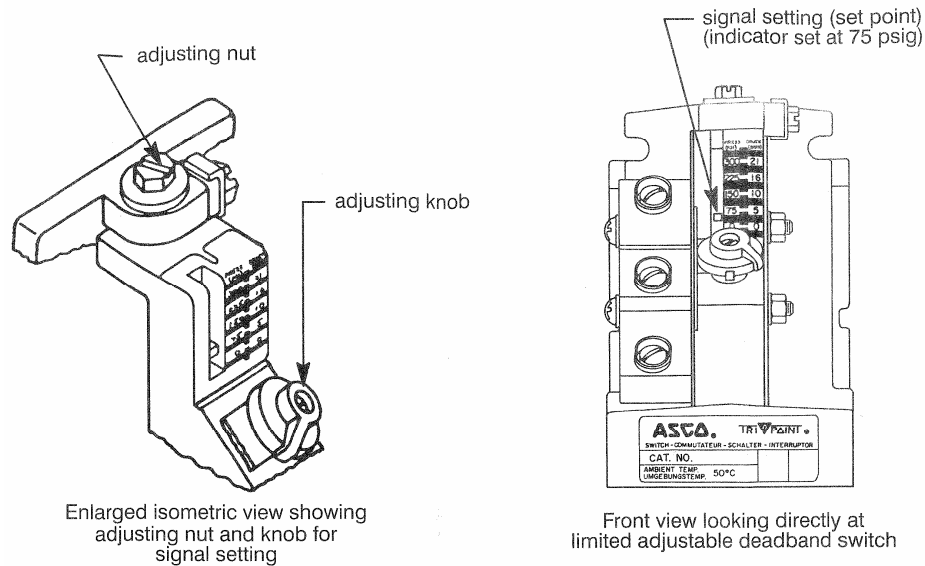

Figure 7.2: Pressure Switch for AS-A – AS-D
Typically the normally open contact of the pressure switch is used for the wiring purposes. Please refer to the Figure 7.2 for the following adjustment procedure:
- 3) Turn adjusting nut at top of the switch clockwise until setting indicator is fully up. Turn deadband adjusting knob on front of the switch clockwise as far as possible. Refer to Figure 7.2.